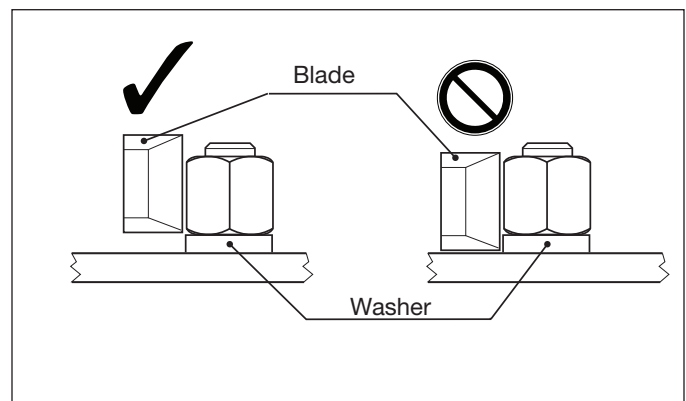

Figure 9, Blade Position
7. Ensure that the underside of the cutting head is seated against the flange, as the blade must cut as close to the bottom of the nut as possible. However, if a washer is present under the nut, position the nut splitter so that the cutting blade will not contact the washer. See Figure 9.